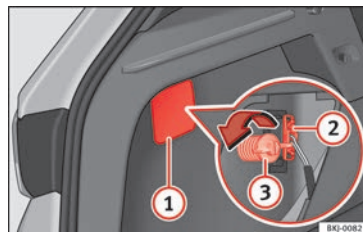
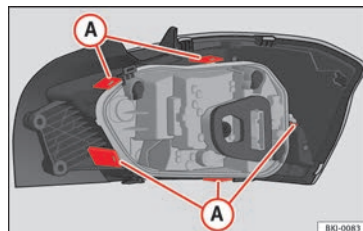

Fig. 100 Luggage compartment: access to the bolt securing the tail light unit.
Fig. 101 Retaining tabs on reverse side of tail light.
» Fig. 100 ①.
4. Remove the bulb connector ②.
5. Unscrew the light securing bolt by hand or using a screwdriver ③.
7. Remove the bulb holder unlocking the retaining tabs » Fig. 101 A.